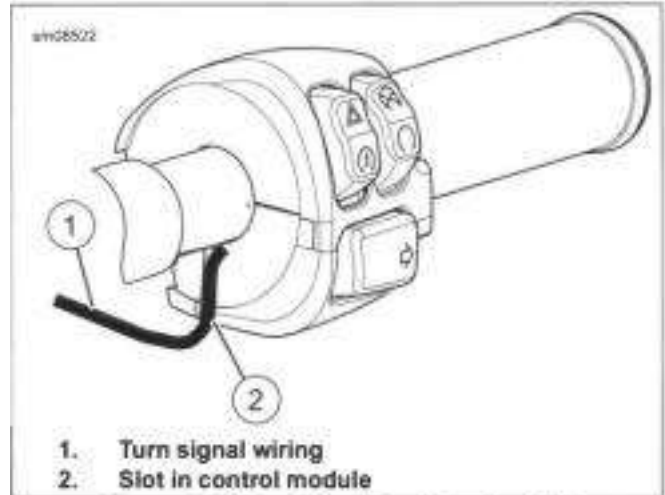

Figure 7-26. Turn Signal Routing (Typical)
**Handlebar-mounted turn singles: See Figure 7-26. Verify that turn signal wiring (1) is routed through opening (2).**